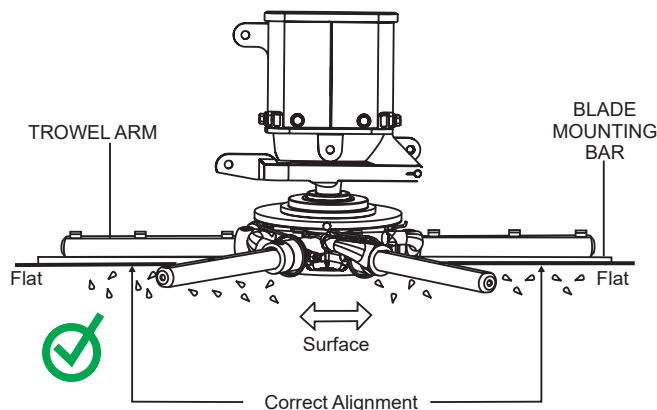

Figure 45. Correct Spider Plate Alignment
2. Pitch the blades as flat as possible. The adjustment bolts should all barely make contact with the lower wear plate on the spider. If one is not making contact, adjustment will be necessary (Figure 45).
Figure 45 illustrates the correct alignment for a spider plate (as shipped from the factory).